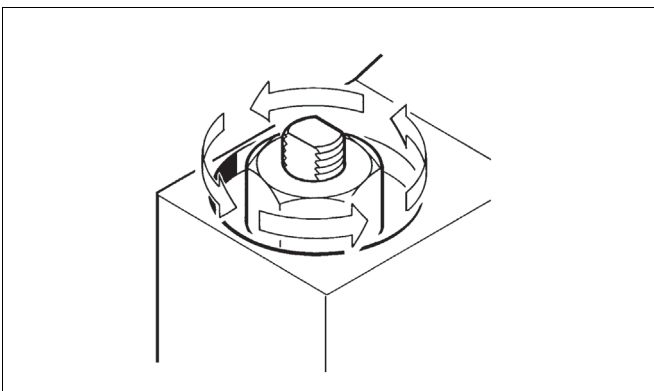
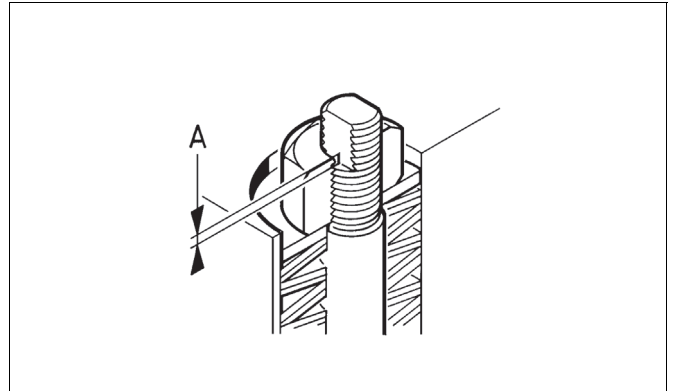

Fig. 15 Loosening of the nuts
Fig. 16 Measuring "A"
- If the actuator cannot turn the ball with the pressure indicated in Table 2, depressurize the actuator and loosen both tilting device nuts (18) by 90°. When necessary, continue loosening the nuts 90° at a time until the valve turns at the pressure indicated in the table, see Fig. 15. Measure the distance "A", see Fig. 16